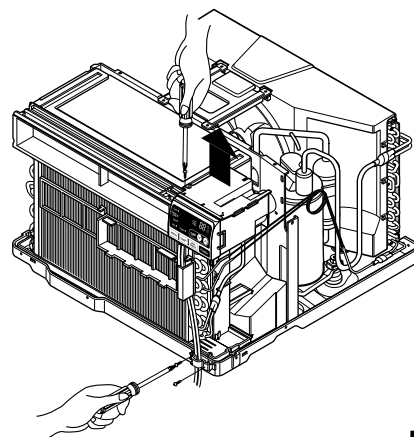

Figure 17
13. Raise the control box upward completely. (See Figure 17)